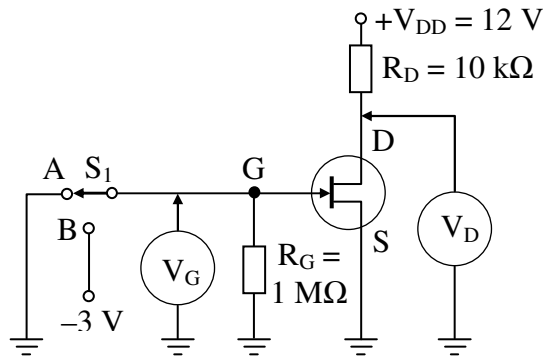

Fig. 7.5 Operation of an N-channel JFET as a switch
JFETs can be used as electronic switches. Refer to Fig. 7.5 and note that when switch S_1 is in position A, $V_{GS} = 0$ V and the JFET is on or conducting. The voltage at the drain should be very low. When the switch is placed in position B, $V_{GS} = -3$ V and the JFET is off or not conducting. The voltage at the drain should be the same as $+V_{DD}$.
- Construct the circuit shown in Fig. 7.5.